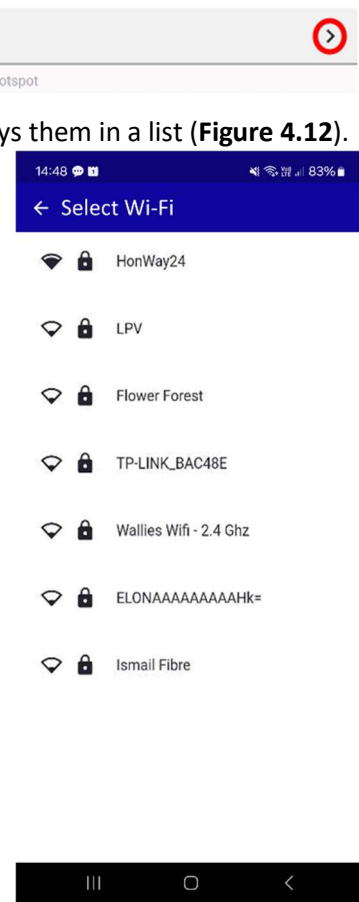

Figure 4.12 Select Wi-Fi
38. The application searches for the available networks and displays them in a list (Figure 4.12).